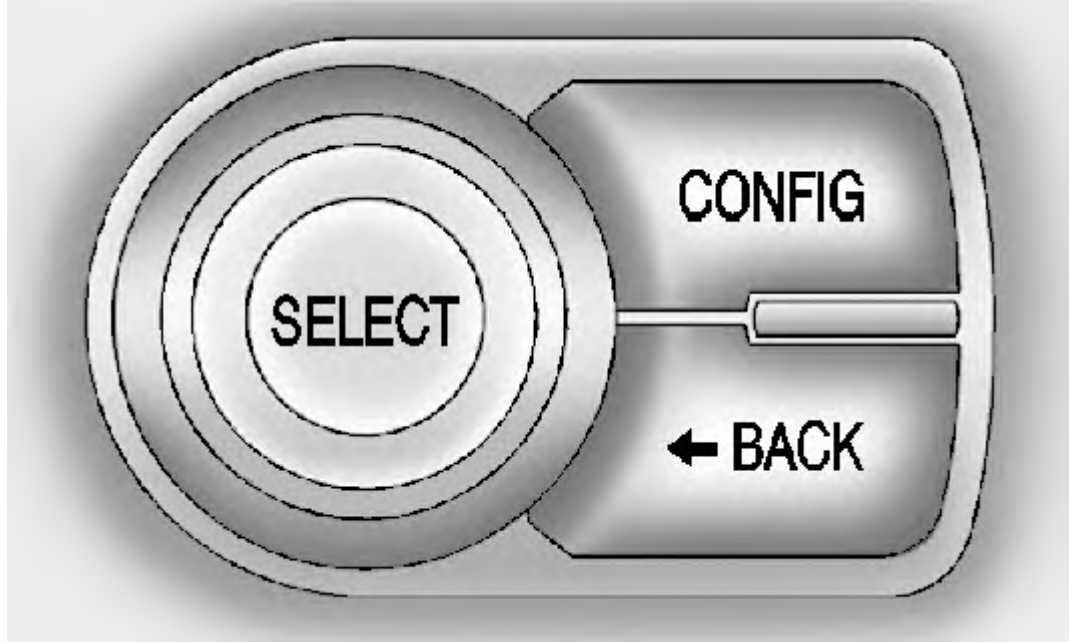

Fig. 9: Identifying DIC Controls (Spark EV).
4. If the Driver Information Center (DIC) display is minimized, press the SELECT knob to maximize it. See Fig. 9.